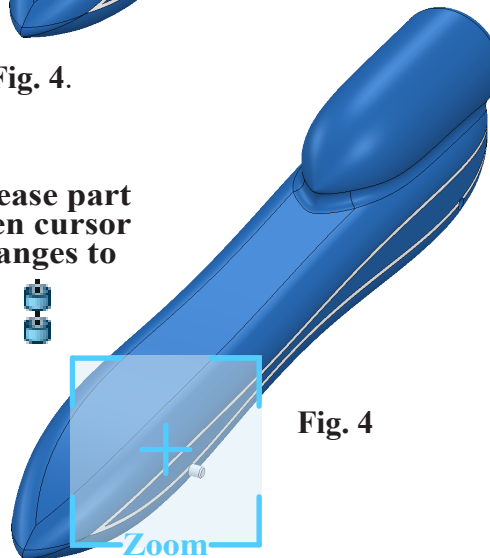

Fig. 4
Step 7. Move cursor in the graphic area and Front Axle will snap into Front Axle hole, **Fig. 4**.
Step 8. Zoom in around **Front Axle**, **Fig. 4**.